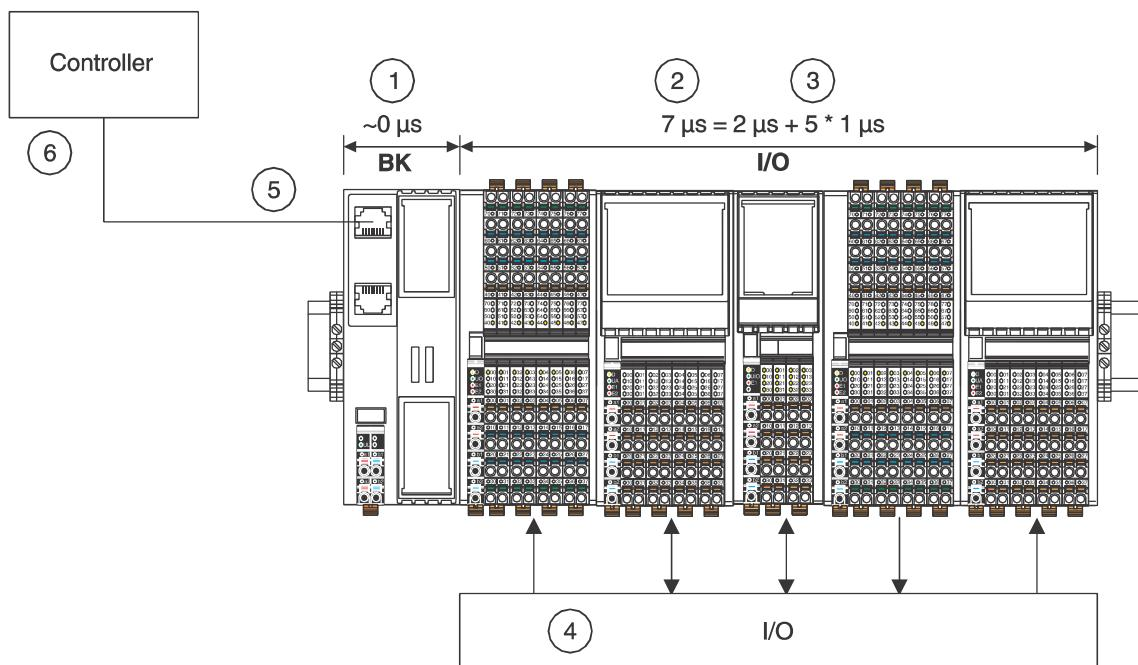

Figure B-2 Response times of the overall system
- The time for copying in the bus heads (bus coupler or controller; 1 in Figure B-2)
- The cycle time of the local bus (2)
- The conversion time in the I/O modules (3)
- The update time of the I/O modules (4)
- The update time of the higher-level network (5)
- The processing time (cycle time) in the controller (6)